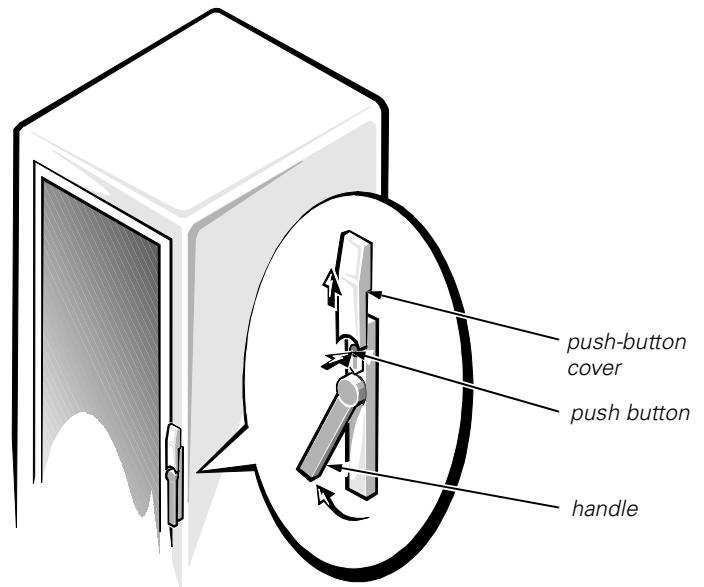

Figure 1-3. Opening the 42-U Rack Cabinet Front Door Latch
| Figure 1-3. Opening the 42-U Rack Cabinet Front Door Latch..... | 1-5 |
If you have a 42-U rack cabinet, slide the latch's push-button cover up as far as it will go, press the push button, rotate the handle clockwise until the latch releases, and then pull the door open (see Figure 1-3).
4. Close the door latch by rotating the handle counterclockwise until it stops, push in the handle until it locks in position, and slide the cover down over the push-button (see Figure 1-3).